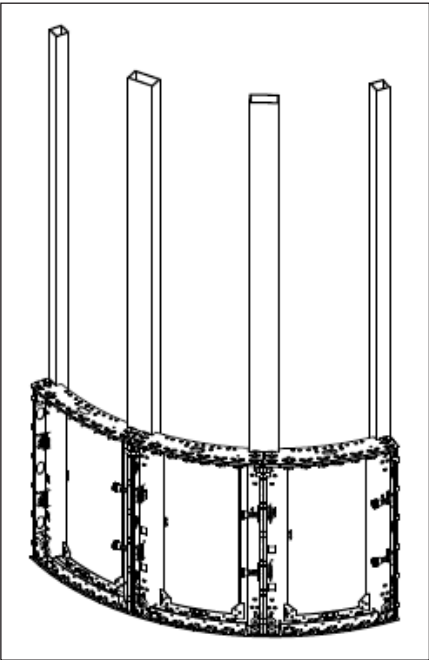

Figure 6: Install Bottom Row of Panels
8. Repeat **Steps 3-7** for each panel in the row, ensuring the punched alignment tabs are as flush as possible. Refer to **Figure 6**.